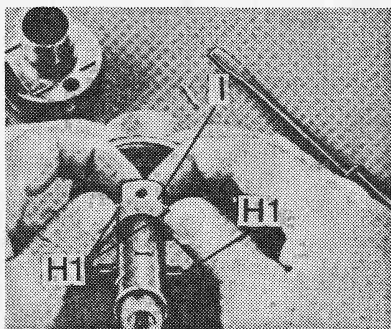

Fig. 10-5.
5. With the housing removed (Fig. 10-5), the lock frame is now exposed. Hold the lock in both hands, positioning your fingers as shown. When performing this operation, hold your palms carefully around lock to prevent springs from escaping the retractor slide. To remove the thrust plate (I), press forward with your thumbs against the frame tabs (H1) and push upward with your index fingers against the thrust plate. This will disengage plate.